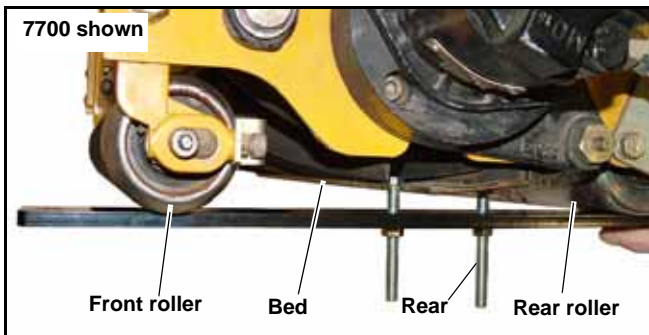

Figure 4-55
7. Adjust the rear bolt on the HOC bar so that the bolt head comes in contact with the rear of the bed knife. Tighten the nut on the rear bolt. Figure 4-55